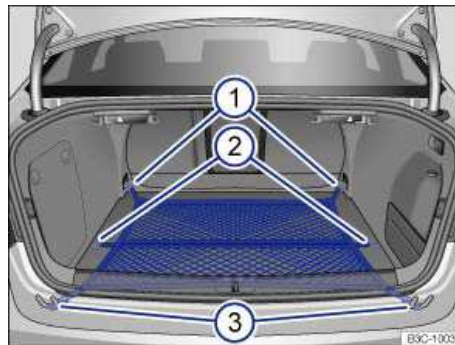

Fig. 106 In the luggage compartment: Luggage net hung horizontally.
- ☐ First, secure the luggage net hooks ⇒ fig. 106 \(1\) to the tie-downs on the rear seat backrest (1) ⇒ ⚠. The luggage net zipper must face upwards.
- ☐ Then secure the luggage net hooks (3) to the tie-downs on the loading edge (3) of the luggage compartment.